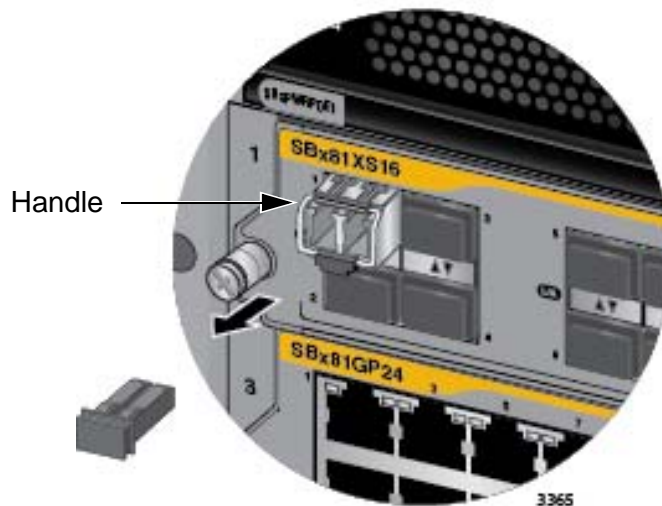

Figure 101. Verifying the Position of the Handle on the Transceiver in the AT-SBx81XS16 Line Card
4. Before connecting the cable, verify the position of the handle on the transceiver. If the transceiver is in an odd numbered slot, the handle should be in the upright position, as shown in Figure 101. If the transceiver is in an even numbered slot, the handle should be in the down position.